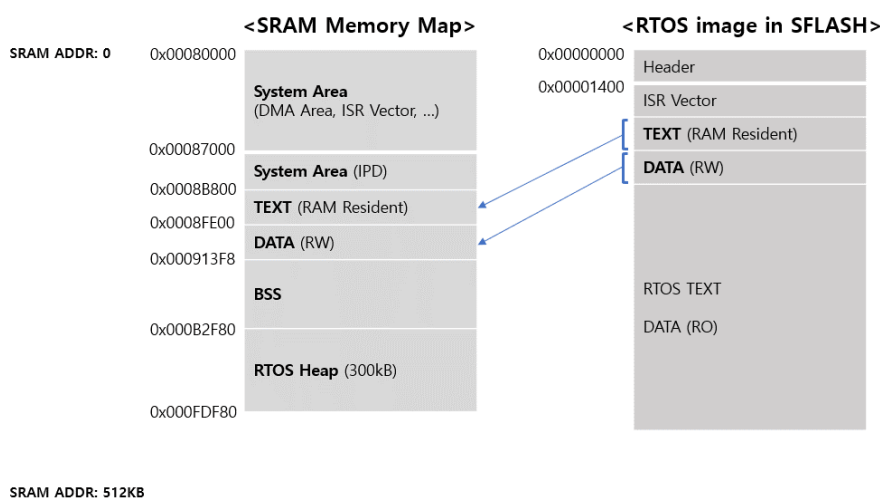

Figure 11: SRAM Memory Map
Figure 11 shows the SRAM memory map of the DA16200 (DA16600) FreeRTOS SDK. Depending on the decrease or increase of DATA(RW) or BSS area, HEAP size may change. By default, SDK provides about 300 kB of HEAP for user applications.